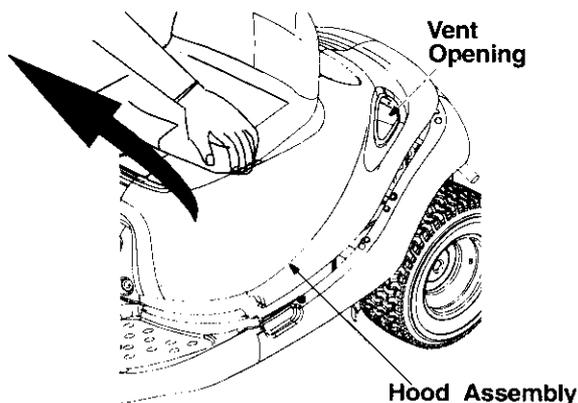

Figure 2
- To access the battery, lift the hood assembly from the left side of the seat only. Stand on the right side of the unit and pivot the hood assembly towards you until fully opened. See Figure 2.